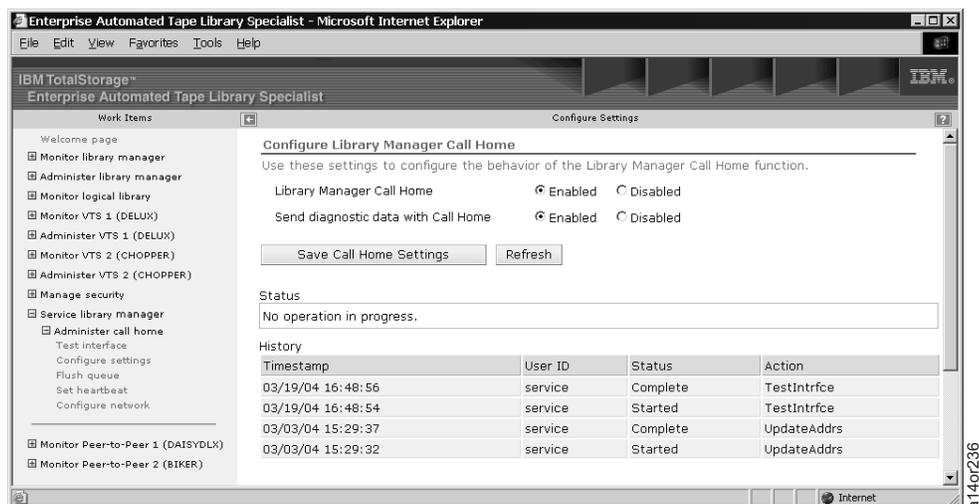

Figure 50. 3494 ATL Web Specialist - Configure Settings
1. From the "Administer call home" list on the Web Specialist screen (Figure 48 on page 38), click **Configure settings** to see Figure 50. If you are prompted for a userid and password, use the default values of **service** for the userid and **service** for the password. These values can be changed by the 3494 ATL system administrator.